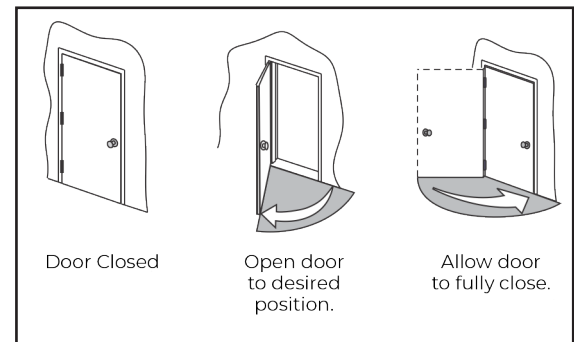

Figure 30
- Push in on joystick again, while door is still closed, to set Home or closed position (Figure 30). Display changes to "Set Open Limit".
- Open door to desired open position (Figure 30) and push in on joystick again. Display changes to "Closing to Home".
- Allow door to fully close again (Figure 30). Display changes to "Home".